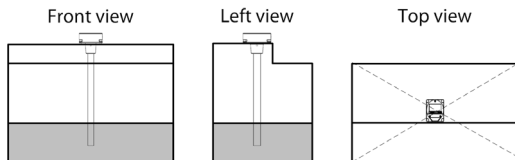

Figure 1. Selection of Omnicomm LLS-Ex 5 sensor installation place
- Installation location should be as close as possible to the geometric center and placed at the deepest level of the tank (Figure 1)